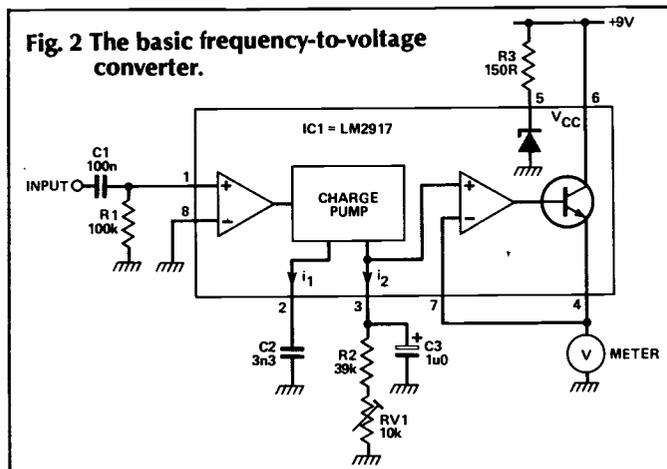
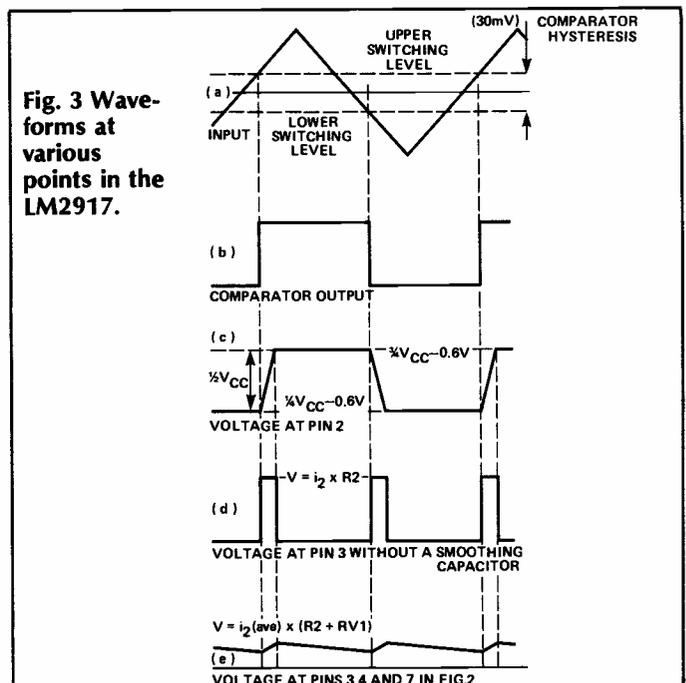

Fig. 2 The basic frequency-to-voltage converter.
Fig. 3 Waveforms at various points in the LM2917.
A simple frequency meter circuit is shown in Fig. 2. The component values shown are for an output of 1V per kHz, so that 2.7V, for instance, would represent 2.7kHz. The op-amp and transistor are connected as a voltage follower to provide a suitable output for the meter.
The heart of the LM2917 is its charge pump. Figure 3 shows the waveforms present at various points in the circuit for two different input frequencies. Each time the comparator output goes high, it turns on a current source  $i_1$  (Fig. 2) which remains on until the voltage on C2 has increased by  $\frac{1}{2}V_{CC}$ . As soon as the voltage on C2 has reached its upper level, ( $\frac{3}{4}V_{CC} - 0.6V$ ), the current source is turned off again. When the comparator output goes low, it turns on a current source,  $-i_1$ , which reduces the voltage on C2 by  $\frac{1}{2}V_{CC}$ . This gives the waveform shown in Fig. 3c.
all of the same height and width, at twice the frequency of the input waveform. Figure 3e shows the result of smoothing these pulses out with a capacitor — C2 in Fig. 2. The ripple is exaggerated in the diagram — with a large enough capacitor, it can be made as smooth as you like. The voltage level will be proportional to the pulse rate, and hence to the input frequency.
As an example, let's calculate the values for an audio frequency meter to give a full-scale reading of 2V for an input frequency of 20kHz. We'll use the same circuit as Fig. 2, but the component values will be different.
2) By leaving out the resistor instead ( $R2$ ,  $RV1$  in Fig. 2), the voltage across  $C3$  will be a staircase waveform (Fig. 8). The duration of each step will be half the period of the input waveform; the rise in voltage on each step will be  $\frac{1}{2}V_{CC}$  ( $C2/C3$ ). The output of the circuit will trip after  $C3/(2C2)$  complete cycles of the input, regardless of frequency.
5) So far we have been assuming that  $C3$  and  $R3$  are fixed and that the input frequency varies. If the input frequency is kept constant, output voltage will be proportional to  $C2$  and  $(R2+RV1)$  (Fig. 2). This provides the basis for a resistance or capacitance meter, or a circuit to